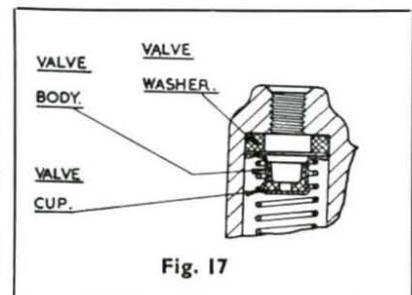

Fig. 17
At the end opposite to the push-rod, an end plug (15) screws down against a gasket (14); this plug forms the outlet connection and its inner face provides a seat against which a check-valve assembly (13) is loaded by the spring (with the types of cylinder illustrated on Figs. 12 and 13 the end plug is not fitted, and a rubber washer seats against the end of the cylinder bore. The check valve fitted in this type is illustrated in Fig. 17). The check valve Ref. 13, Fig. 14, is fitted in some units and comprises a rubber body incorporating a metal insert in which a number of holes are drilled. These holes are sealed in one direction by the rubber valve body. In other units the check valve (13A) consists of a dome shaped metal body drilled with a number of holes which are sealed in one direction by a rubber seal secured to its concave side.